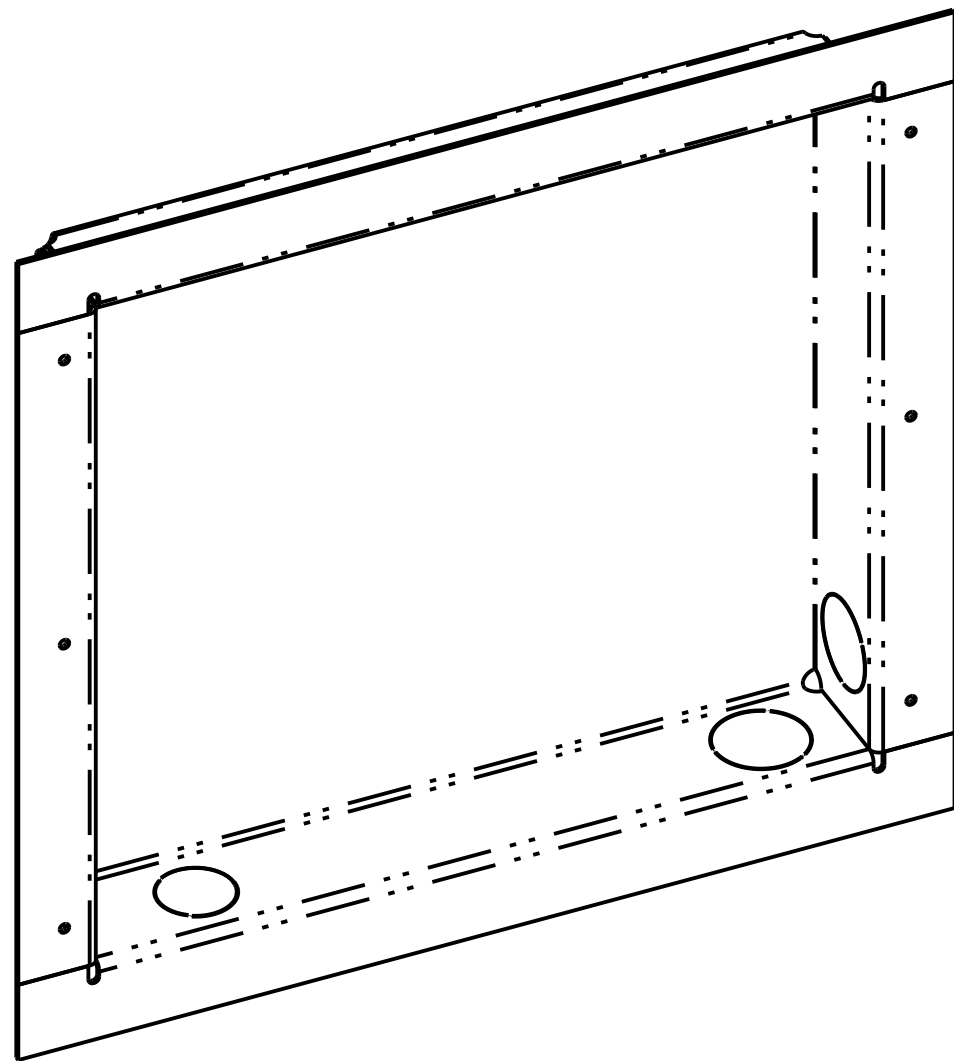

FIGURE 3 - REAR PROTECTIVE COVER
1.0 PREPARATION; READ THIS ENTIRE NOTE BEFORE PROCEEDING - THE APX REMOTE PANEL CAN BE INSTALLED EITHER INSIDE OR OUTSIDE THE TRAILER. SELECT LOCATION FOR MOUNTING AND PREPARE THE SURFACE PER THE DIMENSIONS ABOVE. FOR TRAILER MANUFACTURER PREPARATION, FOR THE FLUSH MOUNT TYPE THERE IS ALSO A REAR PROTECTIVE COVER AVAILABLE FOR INSTALLATION BEFORE THE REMOTE PANEL IS INSTALLED (SEE FIGURE 3).